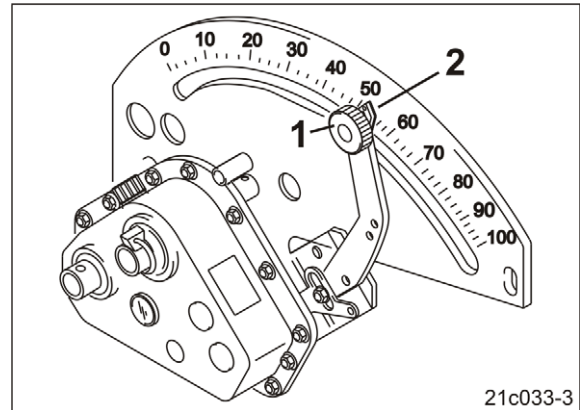

Fig. 127
3. Undo the locking button (Fig. 127/1).
5. Set the pointer (Fig. 127/2) of the gearbox lever **from below** to the gearbox setting value.